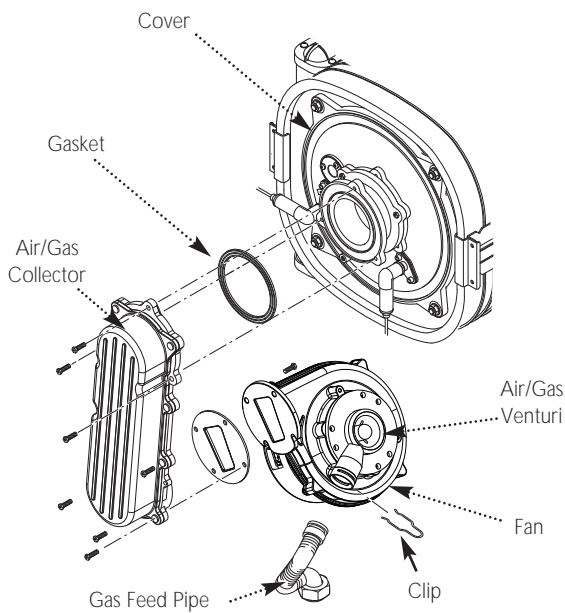

Fig. 50
13.2 Fan (Fig. 50)
2. Undo the screws securing the air/gas collector to the cover (33) or extension piece (24/28) and disconnect the fan electrical plugs (Fig. 50).
13.3 Air/Gas Venturi (Figs. 50 & 51)